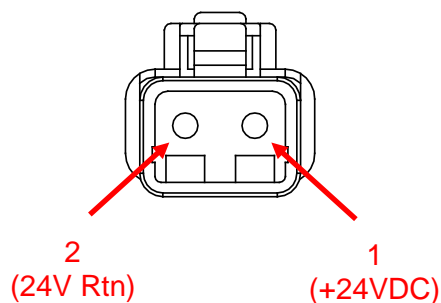

FIGURE 7 – DC POWER INPUT CONNECTOR
- ii. Before connecting CABLE 1 to Seakeeper, check for proper voltage and polarity with a DC multimeter using Figure 7 below.